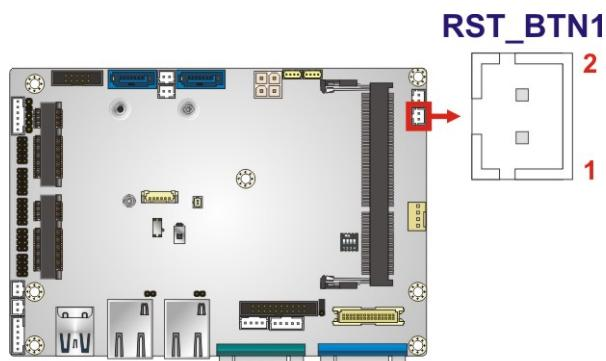

Figure 3-19: Reset Button Connector Location
**CN Location:** See Figure 3-19